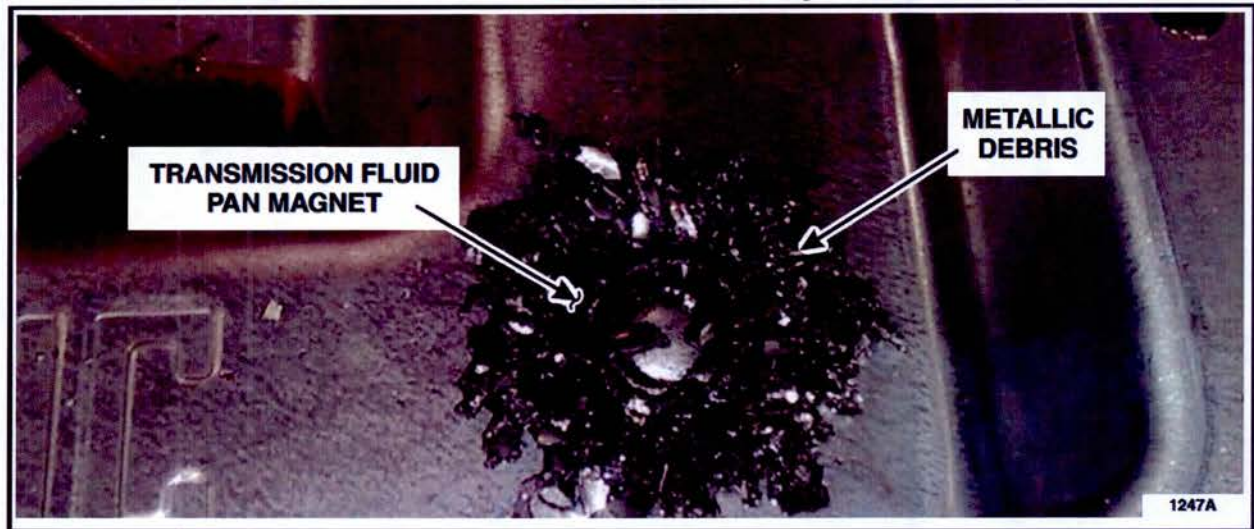

FIGURE 1
- If excessive/large metallic debris is present such as in Figure 1, proceed to Step 3.